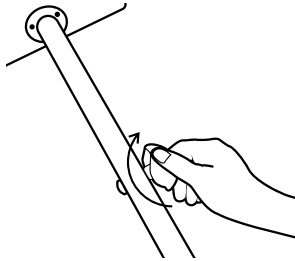

Fig. B3
3. Turn the locking knob clockwise to tighten. Now the lower shaft is locked with the upper shaft. (See Fig. B3)